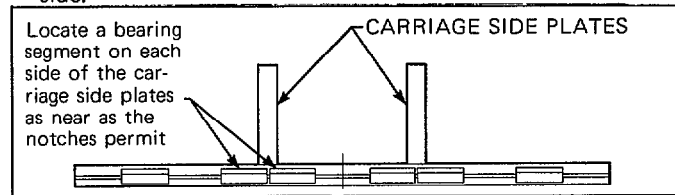

Figure 6. Location of Bearing Segments
6. Place the upper bearing segments in the notches of the truck carriage upper faceplate, grouping them as shown in Figure 6. Apply a liberal coating of graphite base grease to the bearing segments.